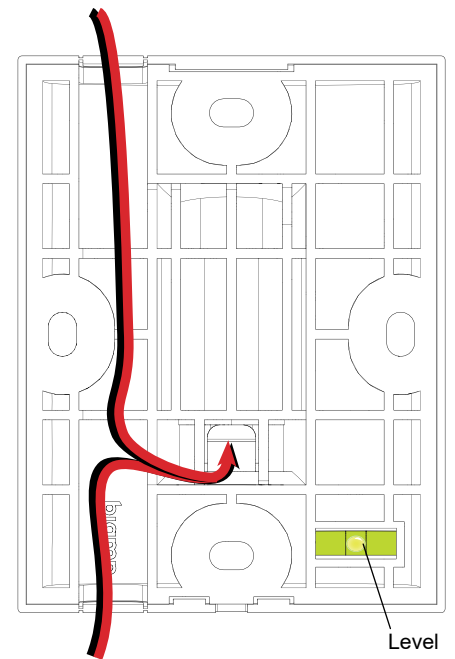

Figure 1. Wire routes through the rear of the ClickMount Pan-tilt Bracket
1. Route the wire through the channel in the wall bracket and out the hole in the base (Figure 1), and attach the wall plate to the mounting surface (attachment hardware is not included). There is a small level in the lower left corner to ensure the bracket is straight. *Do NOT install the cover plate yet* - wait until the loudspeaker is ready for installation. Pull enough wire through so that the bracket arm can be fully tilted or panned.